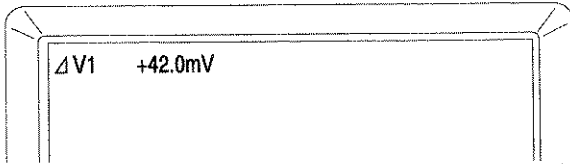

Figure 9: Typical ΔV Readout
5. Read the measurement value on the screen. Typical measurement readouts are shown in Figures 9 and 10. The measurement values are automatically controlled by the **VOLTS/DIV** and **SEC/DIV** control settings.